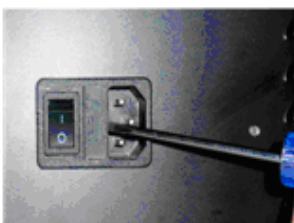

Fig. 4-4
Step 2: Take out the fuse holder by a 3*75 flat screwdriver with blade, remove the broken fuse from the working position and replace it with the spare fuse (Fig. 4-4, Fig. 4-5).